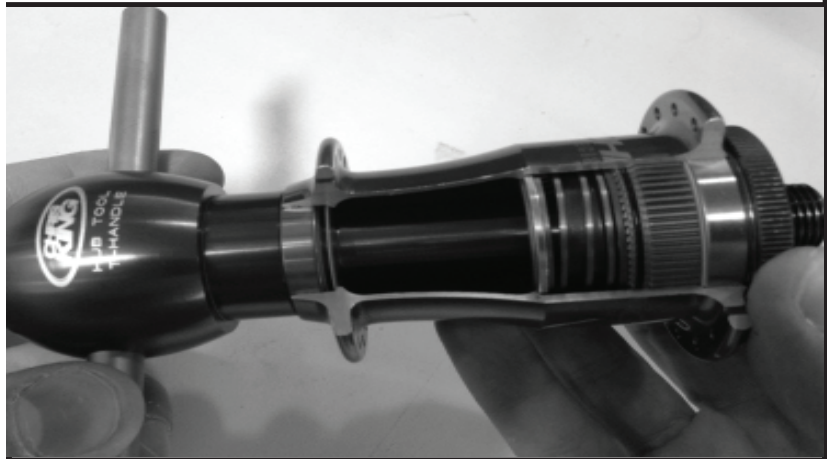

Figure 33 - install non-drive side bearing
4. Pass T-handle with bearing through non-driveside of hub shell and thread into knurled ring. Continue turning T-handle to press bearing until it is firmly seated. (See figure 33.) Loosen T-handle, turn knurled ring 180° and tighten T-handle to press bearing again. (This assures the bearing is seated flatly against the shoulder of the bore.)